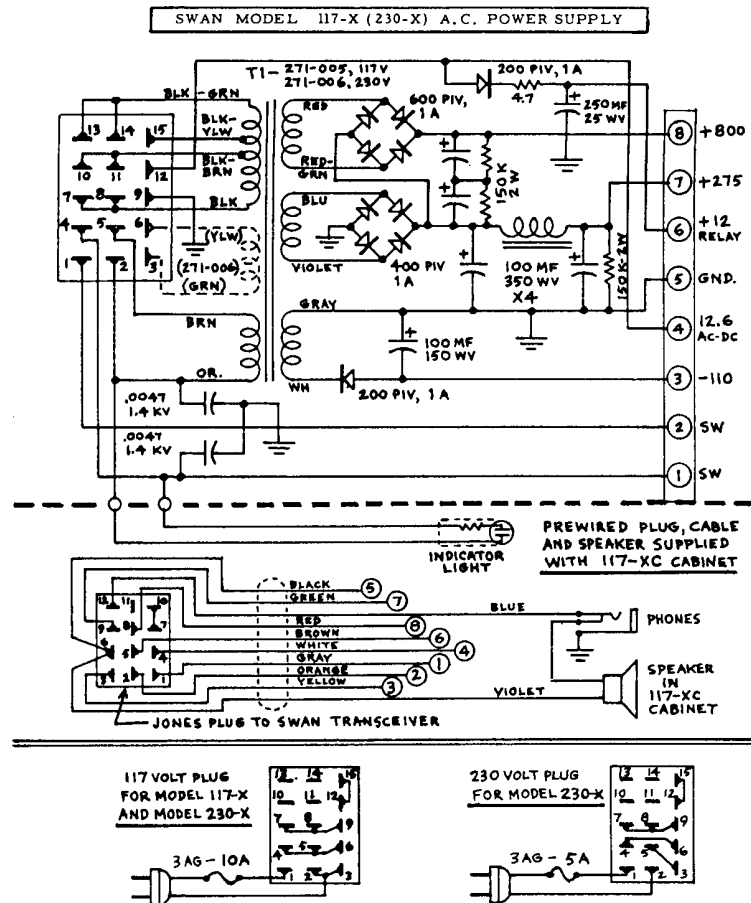

FIG. 9 MODEL 117-X (230-X) POWER SUPPLY
- (A) Detach the D.C. Module, and plug in an A.C. line cord in place of it. Before applying power, disconnect the brown cable wire going to terminal (1) of the A.C. supply and connect a jumper from terminal (1) to (2). Temporarily tape the brown wire to keep it from shorting to ground, since it will be carrying 12 volts D.C. Now the power supply will operate when the A.C. line is plugged in, although the transceiver filaments will still be operating on the battery. This arrangement will be useful primarily for checking out the A.C. portion of the supply when trouble shooting.
- (B) To operate the transceiver entirely on the A.C. line, it will be necessary to do the following: Disconnect the 5 wire cable going from the transceiver to the A.C. portion of the supply. Replace it temporarily with a 10 wire cable and hook-up as illustrated in the schematic diagram Fig. 9. This is the same cable and speaker hook-up used in the matching cabinet, 117-XC. Using the D.C. supply in this manner will prove useful for portable or